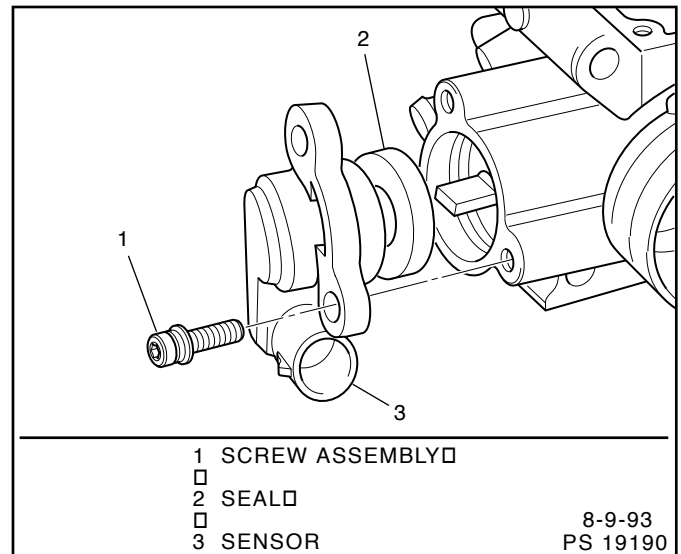

Figure 2-20 - Throttle Position (TP) Sensor
Figures 2-20 and 2-21
1. TP sensor seal over throttle shaft as shown in Figure 2-20.